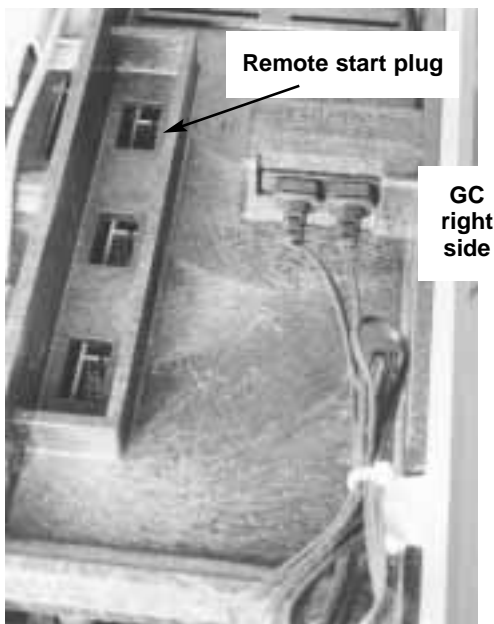

Fig 3.35 The GC remote start plug location.
10. With the covers still removed locate the plug for the remote cable installation on the GC control board. See **Figures 3.35 and 3.26**.